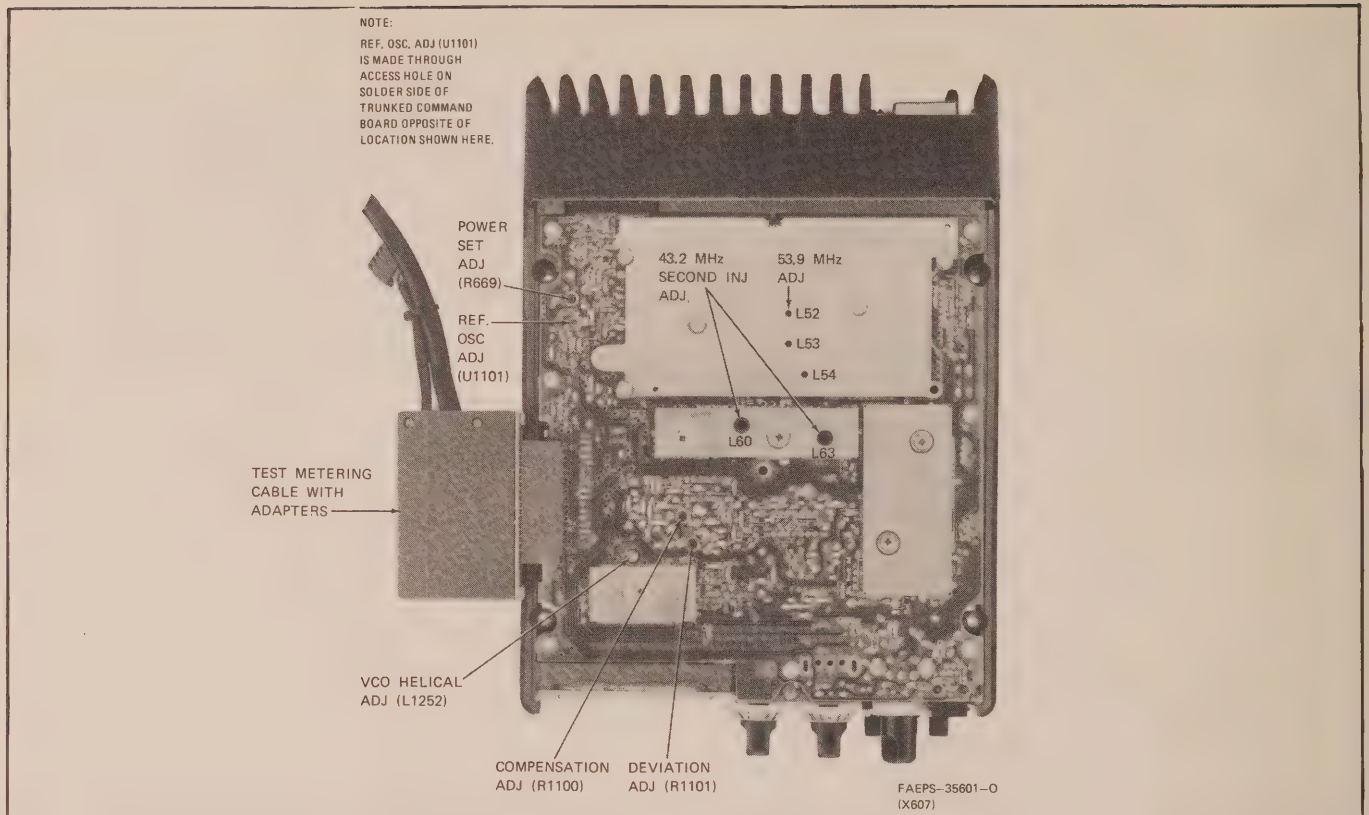

Figure 4. Radio Adjustments Location Detail
5.1.2 All adjustments except the reference oscillator adjustment, can be performed through holes directly accessible from the solder side of the main circuit board, as shown in Figure 4.
Step 4. Using tuning tool Motorola Part No. 66-84974L01, adjust the reference oscillator U1101 warp control (see Figure 4) until the proper indication is obtained on the frequency counter.
Step 1. Turn the deviation potentiometer (see Figure 4) to its maximum position (counterclockwise as viewed from the solder side of the main board).